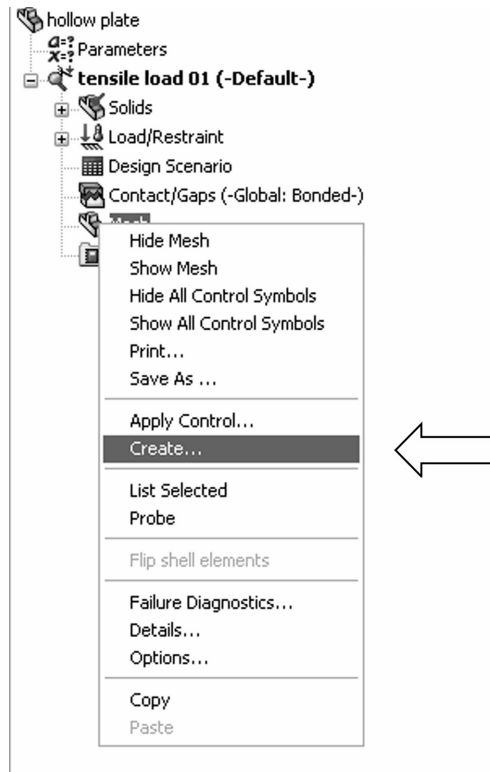

Figure 2-14: Mesh pop-up menu
Now, right-click the **Mesh** folder to display the pop-up menu (figure 2-14).
*You can control the mesh visibility by selecting Hide Mesh or Show Mesh from the pop-up menu shown in figure 2-14.*